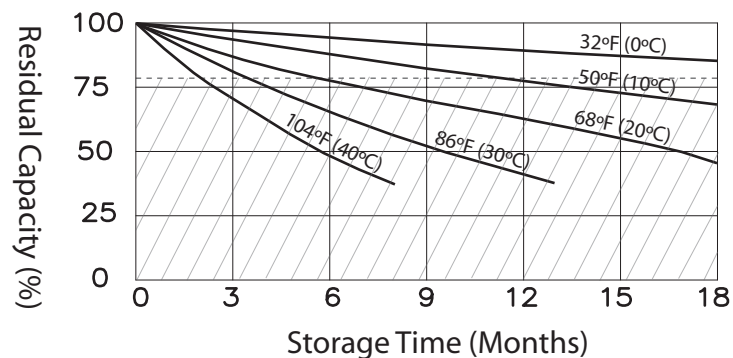

Fig. 4-2, Capacity vs. Storage Time for AlphaCell GXL
- All lead acid batteries experience self-discharge while in open circuit storage. This causes circuit voltage and capacity to decrease (see Fig.4-2), especially over long periods of time at higher temperatures. Storage of the batteries in the shaded area of Fig. 4-2 is not recommended.
- It is important to track open circuit voltage which is related to the density of the electrolyte. If the open circuit voltage is lower than 12.6V or the batteries have been stored beyond the limits shown in Fig. 4-2, the batteries should be charged to avoid damage caused by self-discharge.